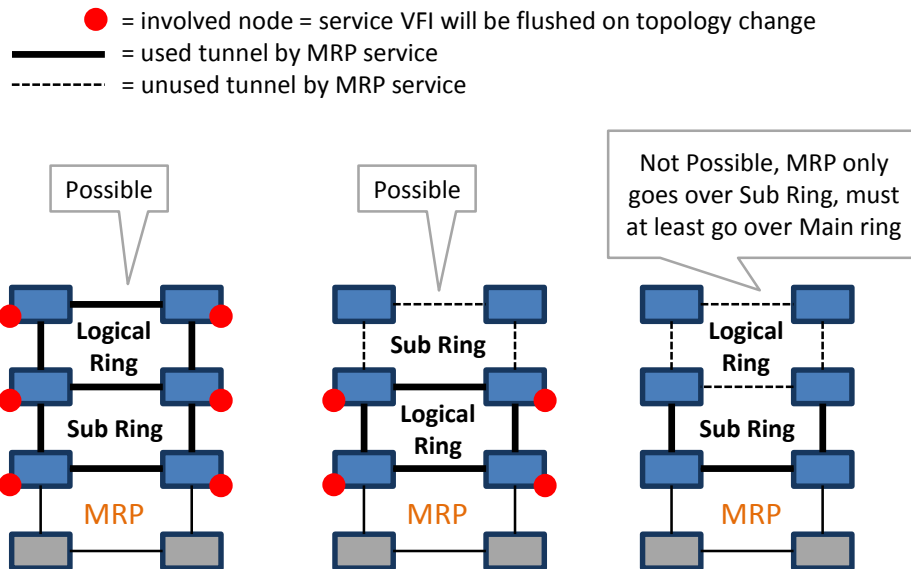

Figure 108 Involved Node: Flush VFI
- Review: Involved Nodes: A data service node that is also positioned in the used tunnels of the MRP service. When a topology change occurs in the MRP ring, the VFI of the involved services in that involved node will be flushed (see also Figure 108). This topology change has no impact on the other VFIs in that node.